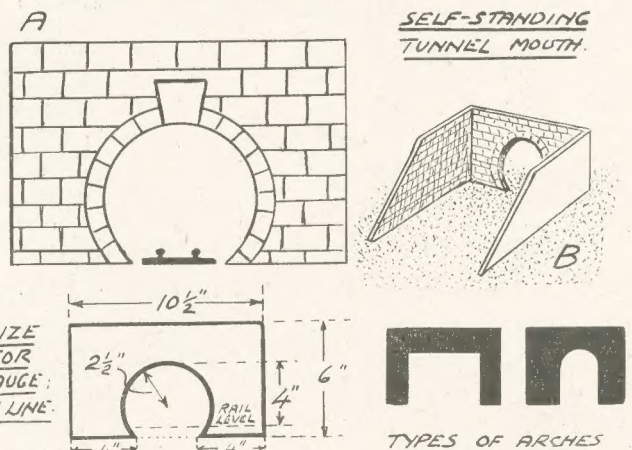

Fig. 2—Constructional details of various types
Tunnel mouths are extremely easy to make. Wood can be used, but stiff card will do quite well. The mouth may be the complete inverted arch, but the three-quarters circle, as indicated in (A) Fig. 2, is very effective. If of cardboard, then a white type should be used upon